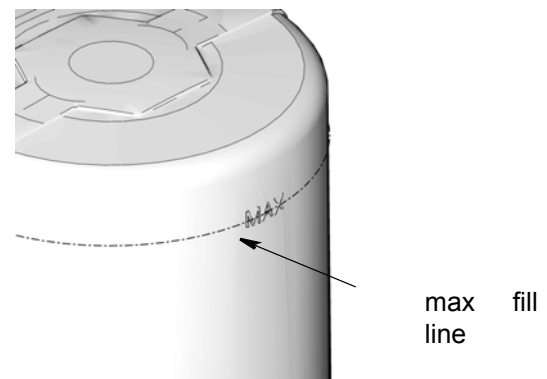

FIG. 21
- Do not overfill (FIG. 21).
4. When the grease has reached the max fill line (FIG. 21), remove the fill hose and replace the dust cap (26) over the inlet fitting (25).